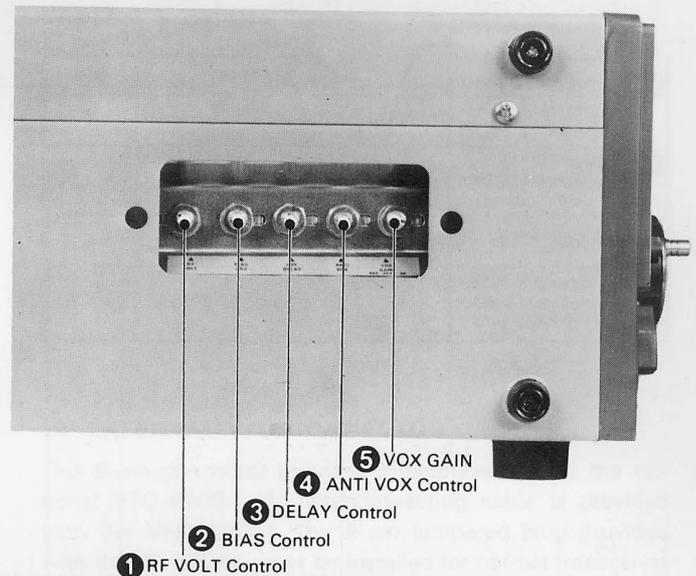

Fig. 3-2 Side Panel Controls
3.2 SIDE PANEL CONTROLS (see Figure 3-2.)